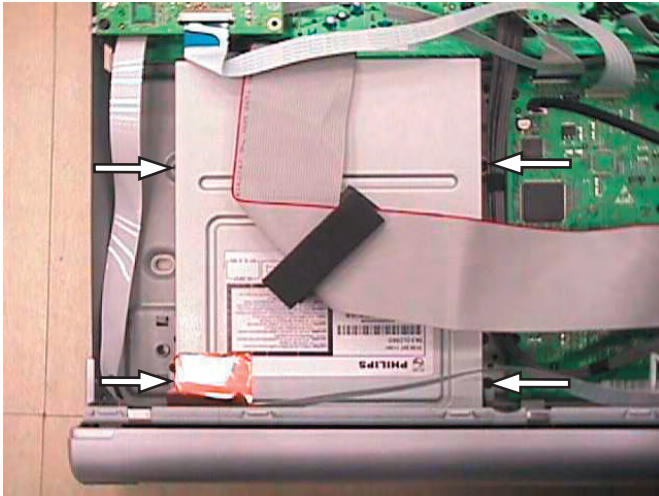

Figure 4-11
- 1) Remove 4 screws to loosen the Basic Engine assembly as shown in Figure 4-11.